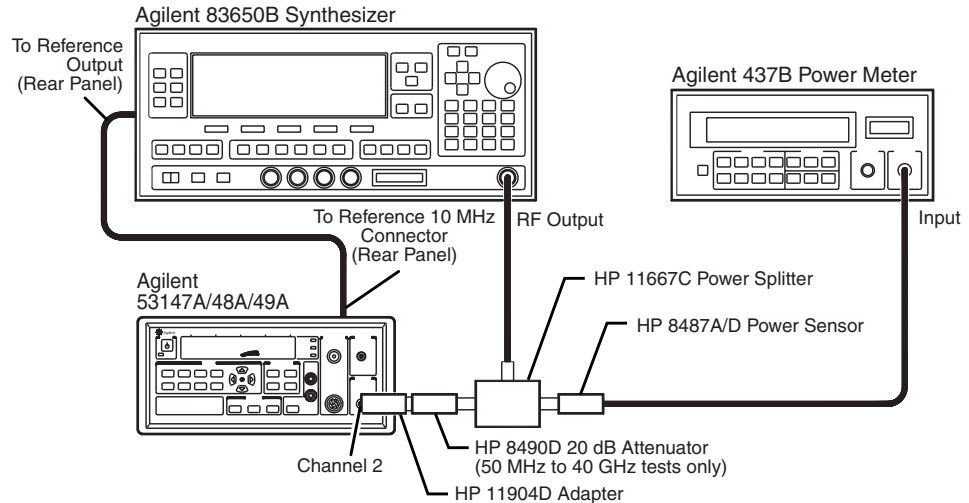

Figure 1-5. 50 MHz to 20 GHz Frequency Sensitivity Test Setup
- 1 Connect the Agilent 11904D 2.92 mm (m) to 2.4 mm (f) Adapter to the Counter's **CHANNEL 2** input connector (refer to Figure 1-5 for steps 1 through 4).
- 2 Connect the Agilent 8490D Attenuator to the Agilent 11904D Adapter, as shown in Figure 1-5 (the other end of the Attenuator should remain connected to the Agilent 11667C Power Splitter).